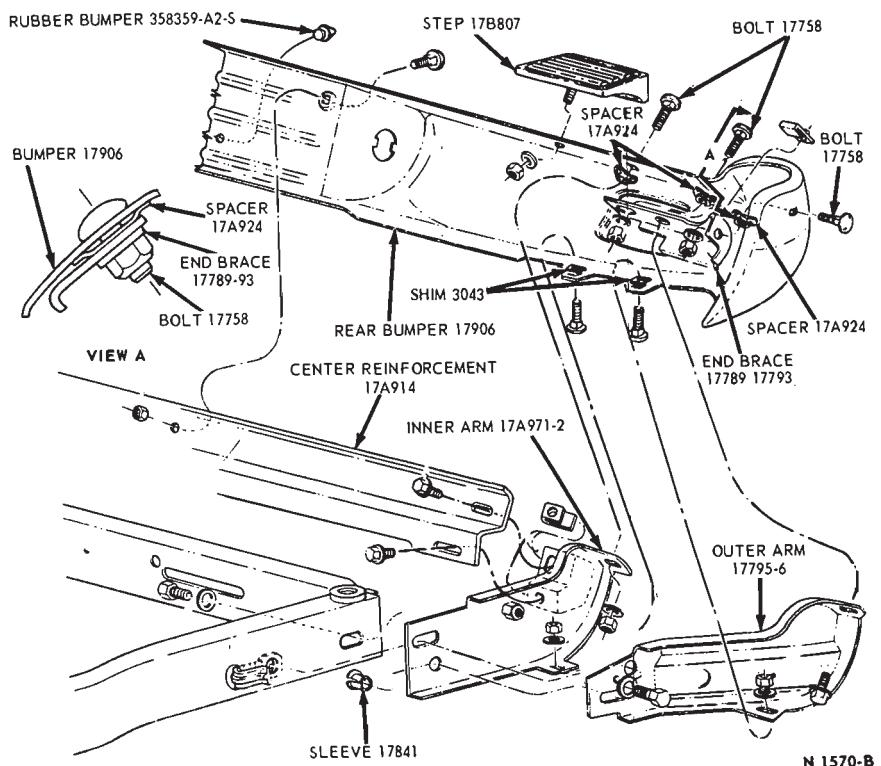

FIG. 6—Rear Bumper Installation—Ford, Mercury and Meteor Model 71
1. Install the back-up lights, end braces and steps on the bumper. Insert spacers between the bumper and the end braces (Fig. 6).
2. Position the bumper arms and reinforcement to the bumper. Place shims and spacers in the locations shown in Fig. 6 and install the bumper-to-bumper arm attaching bolts.